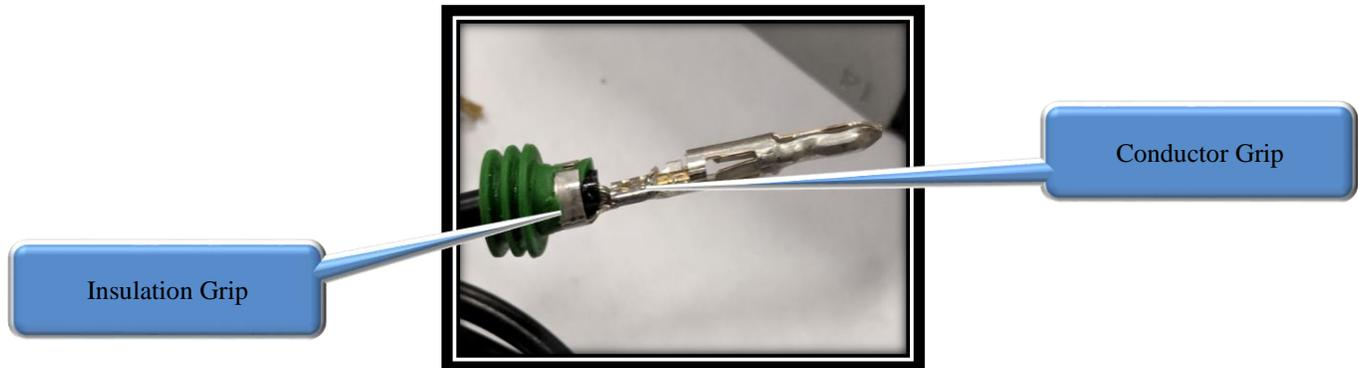

FIG 7.1
10. Insert 12010293 cable seal on to all wires during the crimping of 12124582 terminal pin on all wires. Inspect to ensure terminal is straight and not bent. Ensure the wire's conductors are crimped to the conductor grip of the terminal while the cable seal is crimped along with the wire's insulation grip. Refer to FIG. 7.1.